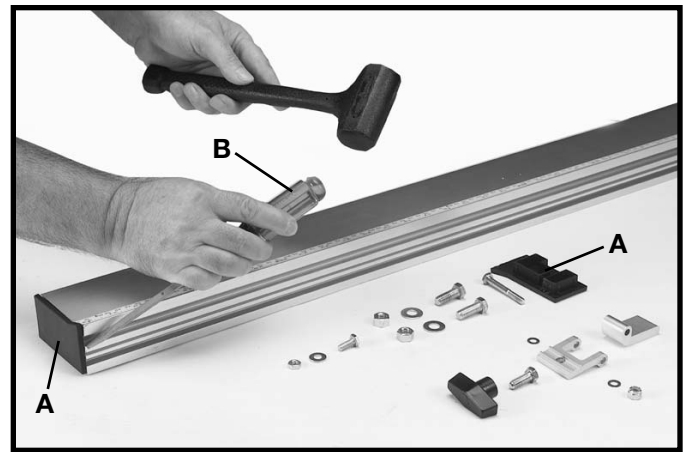

Fig. 59
1. Locate the T-Slot Guide Rail and mounting hardware Fig. 59 from the packing material of the Unifence. Remove the end caps (A) Fig. 59, prior to assembly, by inserting a flat headed screwdriver (B) into the channel and tap gently. **NOTE:** Take care not to damage either the cap or the rail.